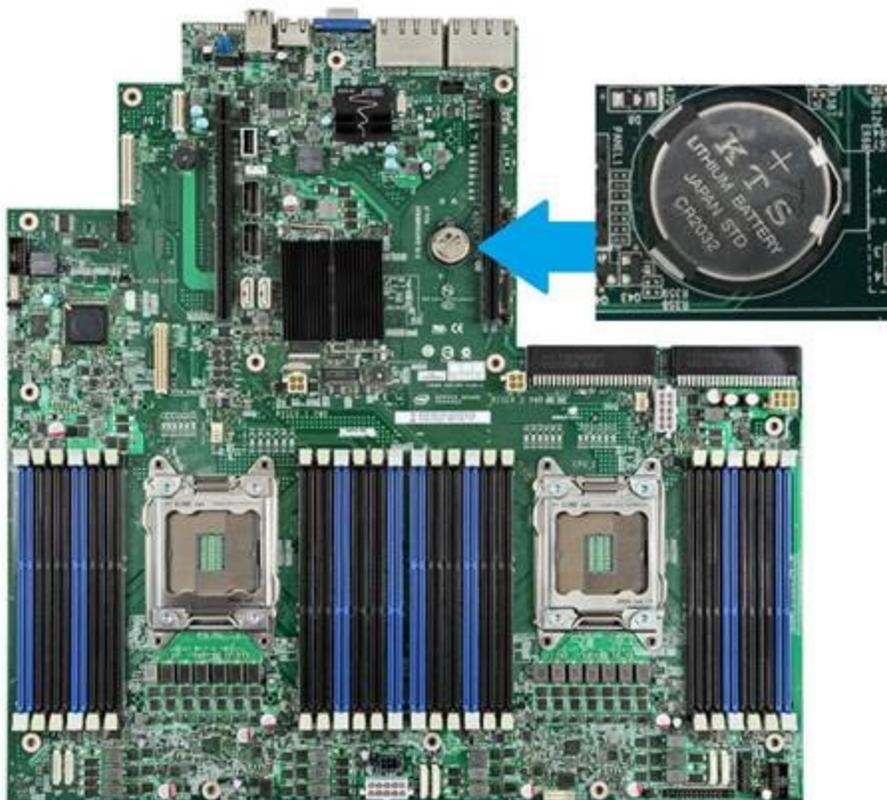

Figure 19: CMOS Battery Location
- 5 Locate the battery as shown in Figure 19 on page 76. The positive pole of the battery should be visible.
- 1 Insert the new battery into the socket with the text on the battery facing up as shown in Figure 19 on page 76.